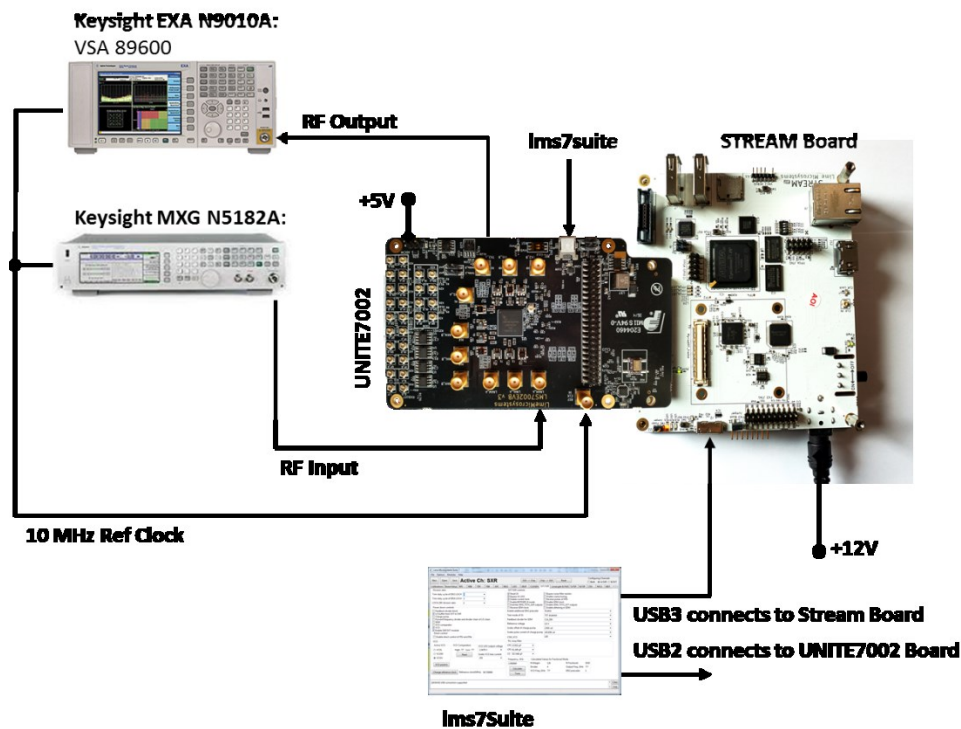

Figure 6 Demo Setup for LMS7002EVb and Stream board
The demo setup is showed in *Figure 6* . This demo uses single control software “*lms7suite.exe*” to control UNITE7002 board and Stream board.
1. Connect the DEMO setup as shown in Figure 6. To measure Tx EVM the VSA89601B software is required.